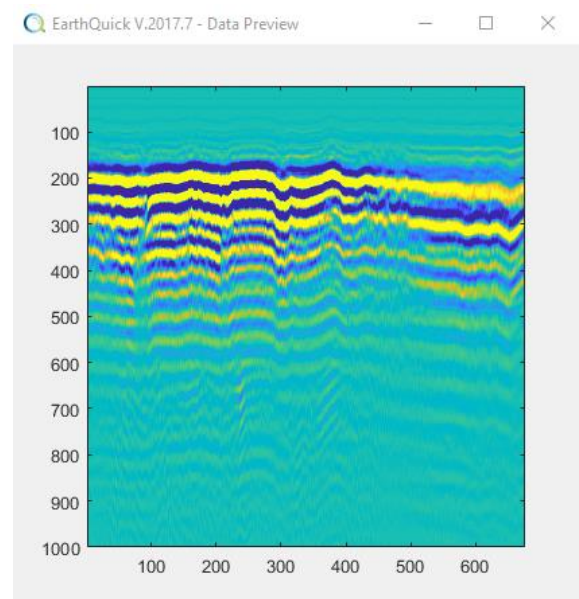

Figure 32: Section preview of SEG-2 to SEG-Y tool.
- Shows a preview of section contained in the SEG-2 file before asking for a SEG-Y output file name (Figure 32).